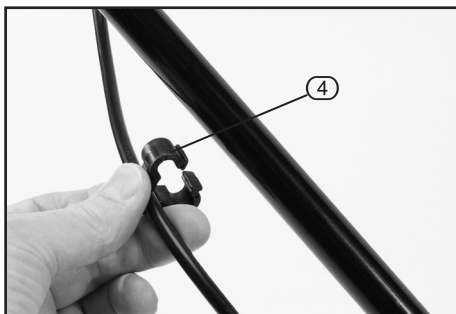

FIG.4
8.4 ATTACH CABLE CLIPS – FIG.4